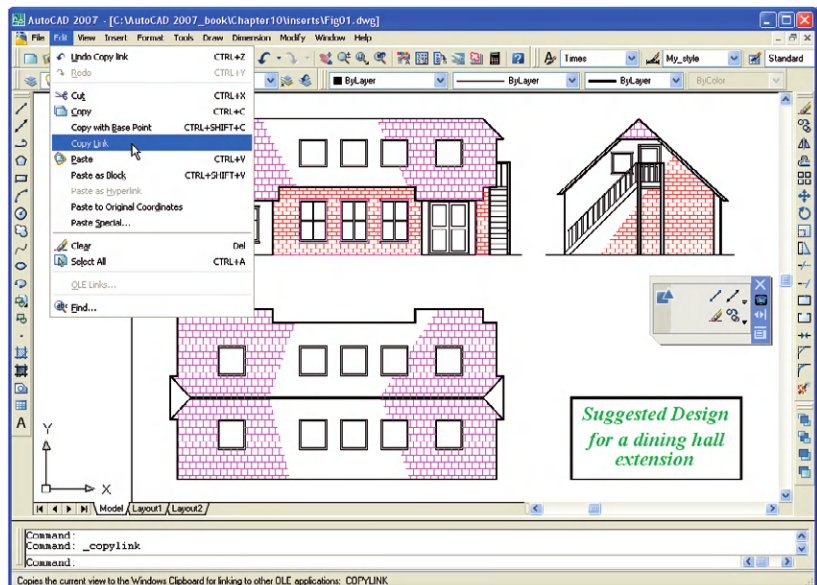

Fig. 10.1 A drawing in the AutoCAD 2007 window showing **Copy Link** selected from the **Edit** drop-down menu
1. Open any drawing in the AutoCAD 2007 window (Fig. 10.1).
2. *Left-click* **Copy Link** in the **Edit** drop-down menu (Fig. 10.1).